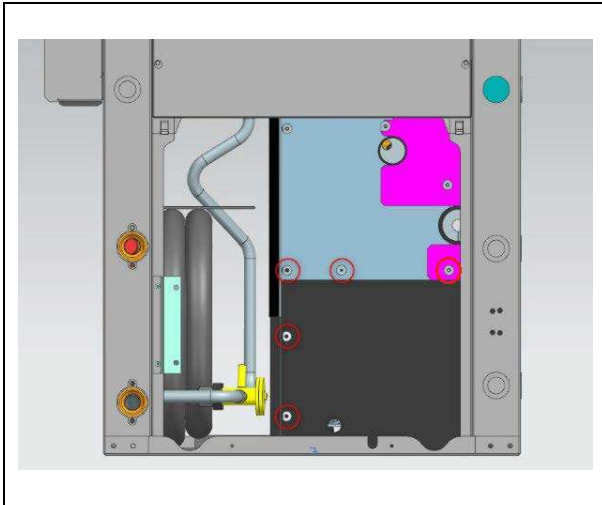

Figure 7. Encapsulation screw locations
- 5) Remove screws holding encapsulation panel. See figure 7.